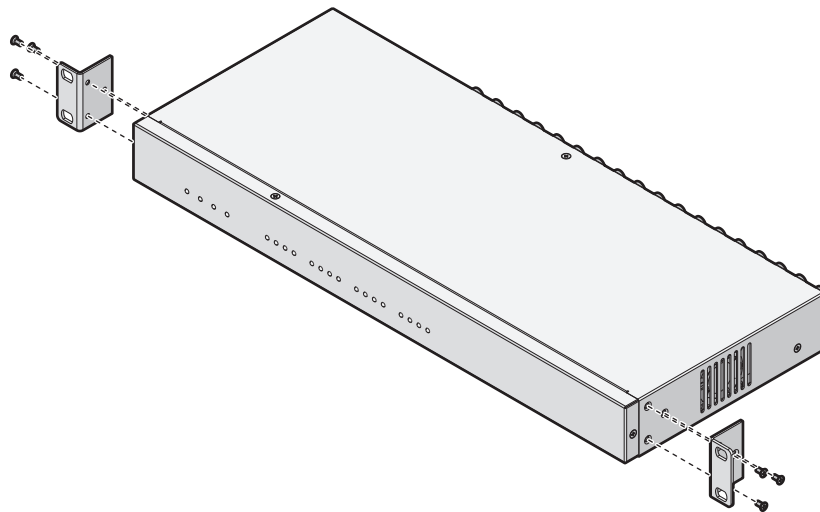

Figure 11. Attaching the Mounting Brackets to the Unit
2. Align the three screw holes in the mounting brackets with the threaded holes on the left and the right sides of the chassis (refer to Figure 11).